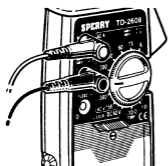

Fig. 4
- (1) Insert the red test lead into the "VOLT" terminal of the instrument and the black test lead into the "COM" terminal (Fig. 4).